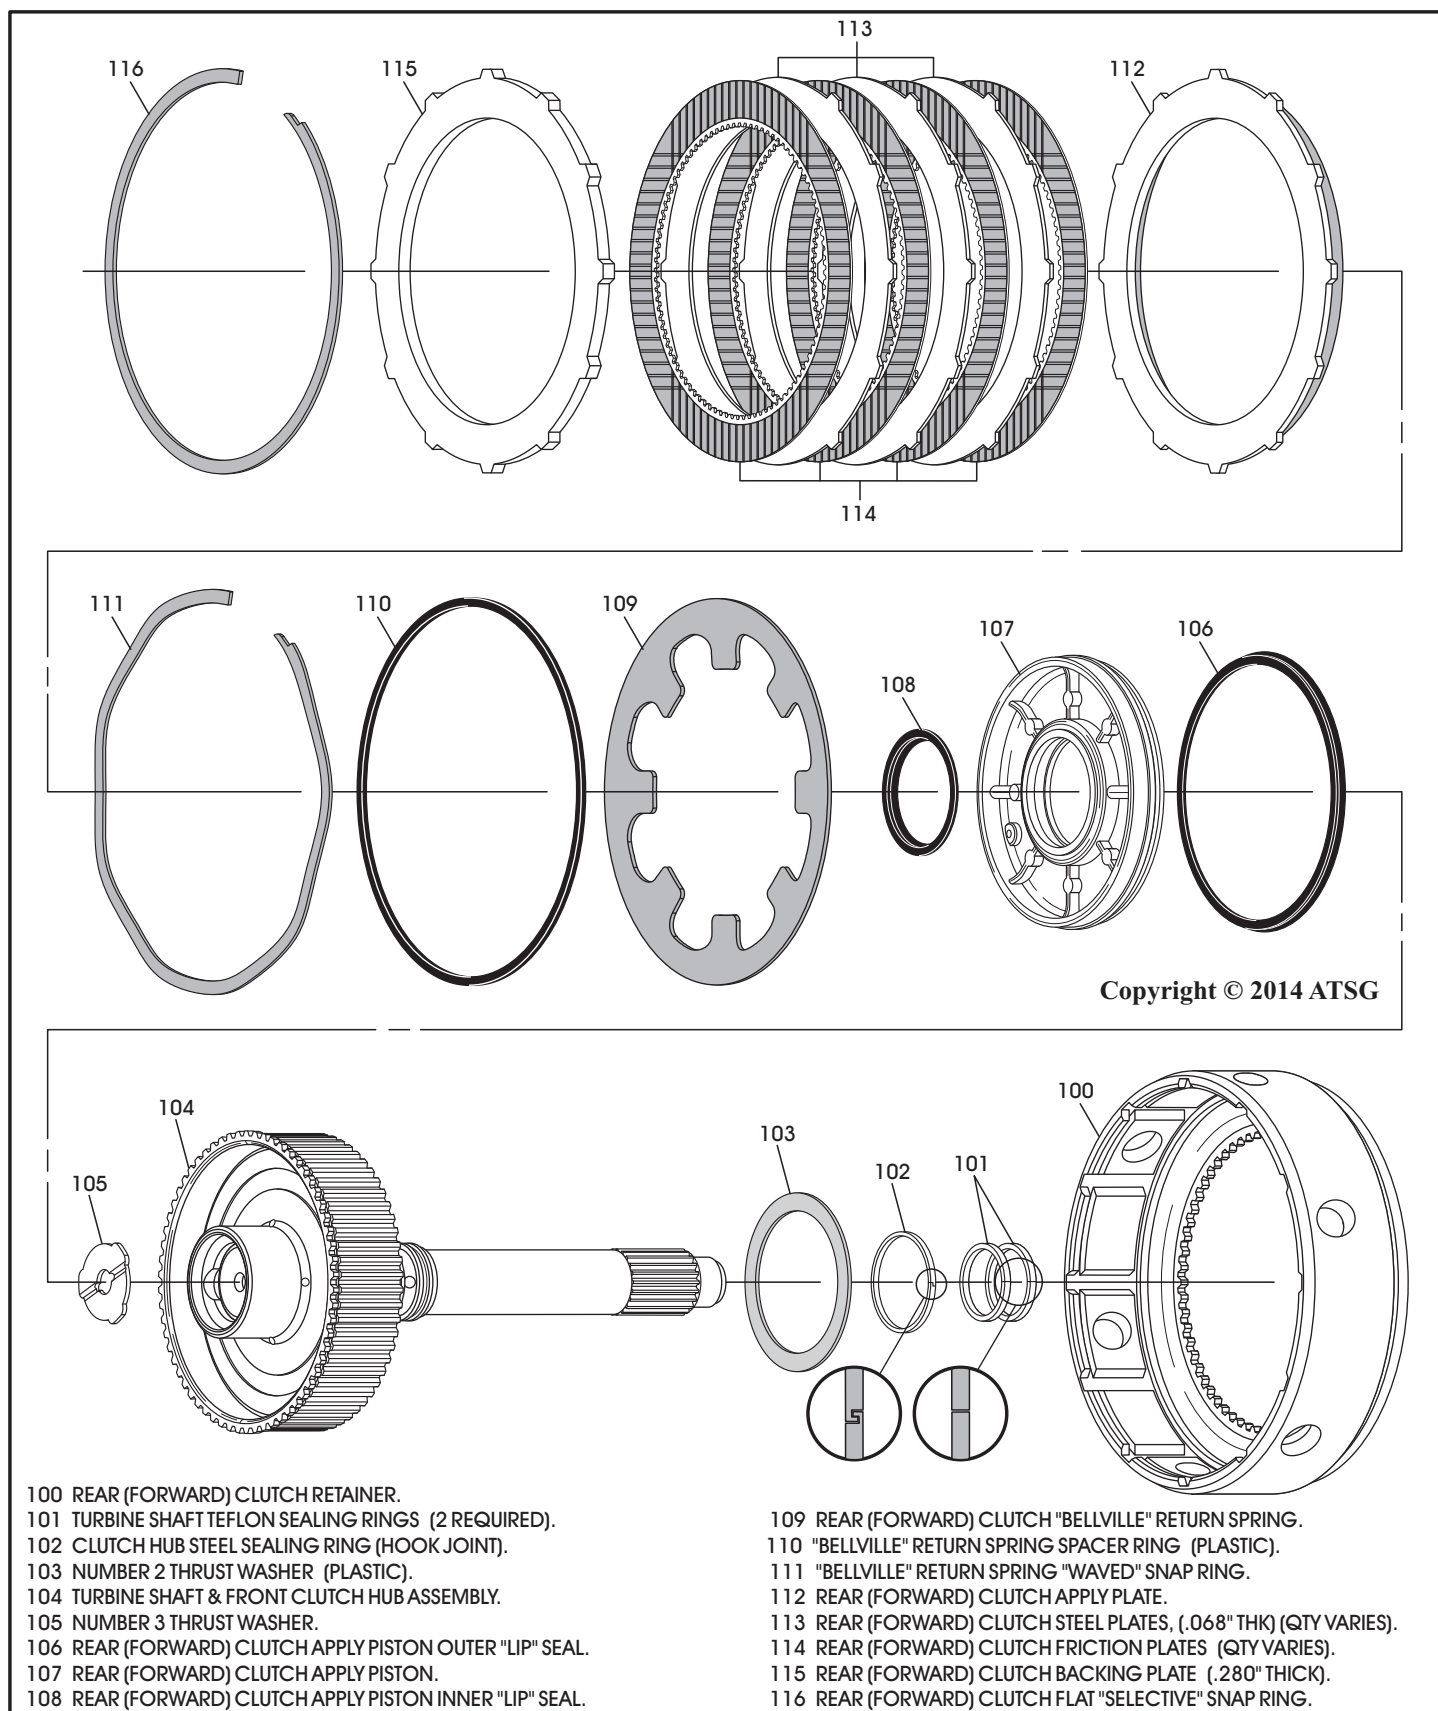

Figure 4
3. The forward clutch piston inner lip seal (# 108 in Figure 4) is known to shrink or deteriorate causing a loss of pressure.
4. Replace the forward drum assembly. If the power program/performance chip is kept in place, there are companies that provide modified performance parts designed to withstand the increased torque. The shaft and hub (# 104 in Figure 4) are usually billet in design or hardened 1 piece design.